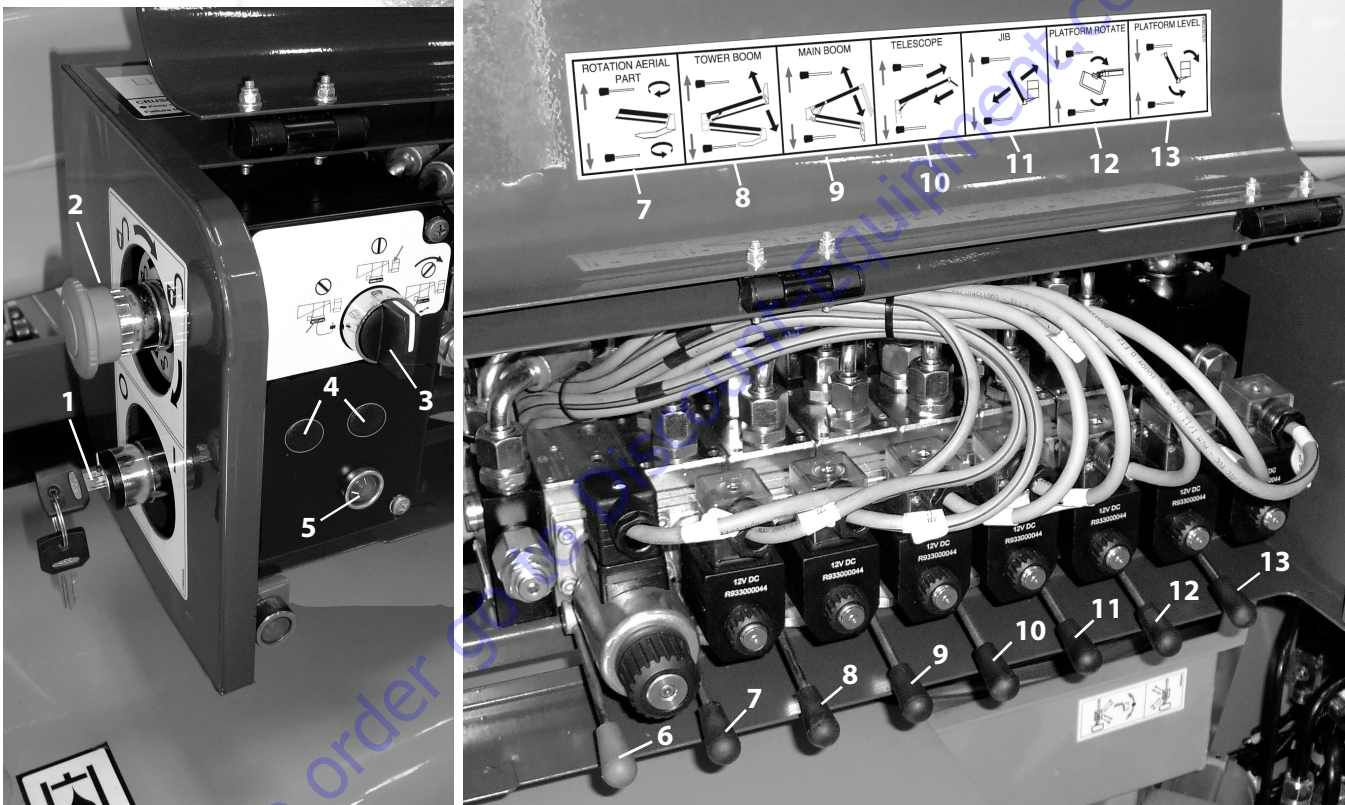
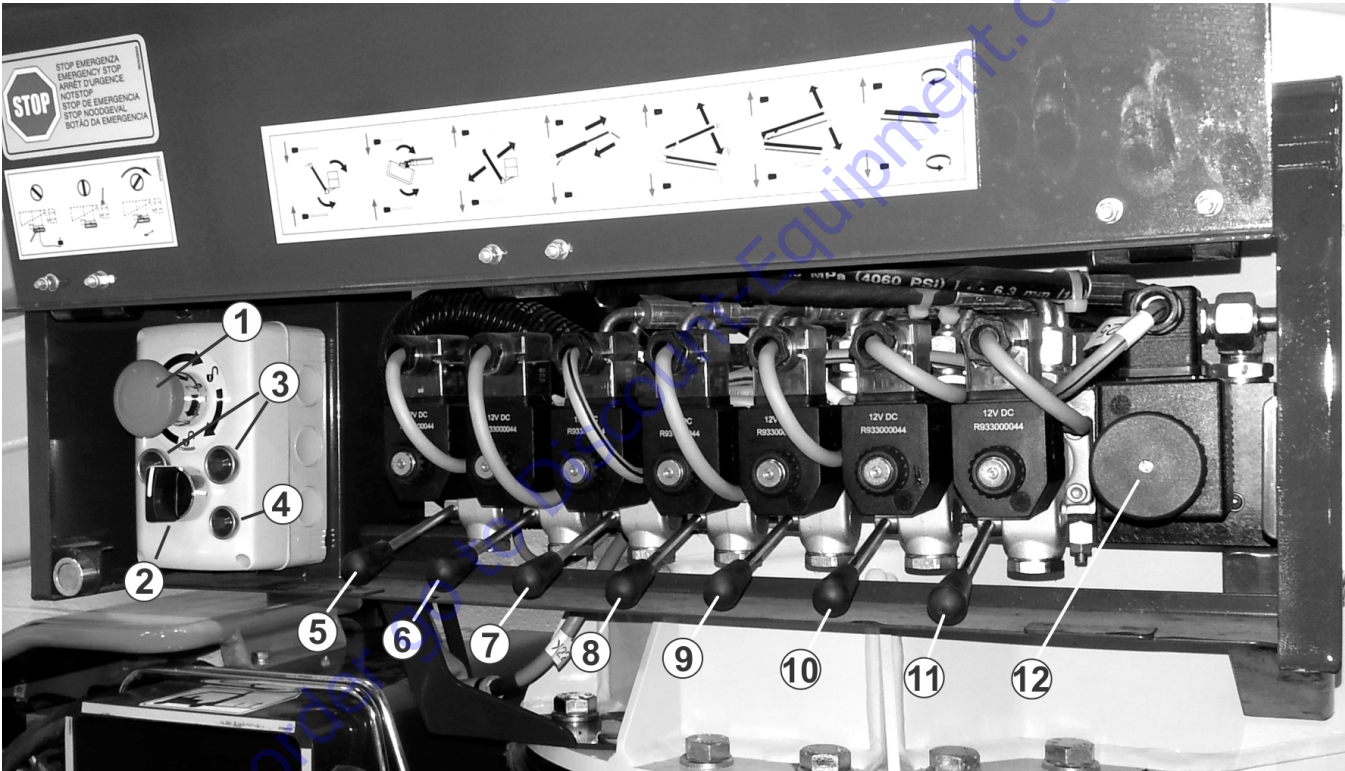

Figure 5-2. Ground Control Station - with Enable Lever
Figure 5-3. Ground Control Station - Boom Control Valves
(See Figure 5-2. or Figure 5-3.)
1. Operate the boom control valves at the ground control valve distributor. (see Figure 5-3.)
NOTE: *The distributor enable valve (item 12) adjusts the speed of the boom movements (pressure flow) when using the boom control valves at the valve distributor on the left side of the machine in Figure 5-3. Without electrical power you must manually open this valve by pressing it in before operating the boom controls.*
Open the cover on the Ground Control Station (See Figure 5-2. or Figure 5-3.) located on the hydraulic tank side of the machine.
- a. **Depress the enable valve lever/button** (See Figure 5-2. or Figure 5-3.).
- b. **Activate the swing control lever** (item 11 - Figure 5-3. on page 5-7), in the desired direction of travel while pumping the hand pump until the turntable is aligned with the chassis.
NOTE: All of the following functions require the enable lever/button (See Figure 5-2. or Figure 5-3.) to be depressed while pumping the hydraulic hand pump and operating the function lever.
With the aid of an assistant, while pumping the hand pump, activate the telescope function lever (See Figure 5-2. or Figure 5-3.) at the ground controls, to retract the main boom.
While pumping the hand pump, activate the jib lift function lever (See Figure 5-2. or Figure 5-3.) in the appropriate direction to lower the jib.
While pumping the handpump, activate the tower boom lift function lever (See Figure 5-2. or Figure 5-3.) in the appropriate direction to lower the tower boom.
With the aid of an assistant, activate the main boom lift function lever (See Figure 5-2. or Figure 5-3.) in the appropriate direction to lower the main boom.
Activate the appropriate platform rotate function lever (See Figure 5-2. or Figure 5-3.) to rotate the platform.
Activate the appropriate platform level function lever (See Figure 5-2. or Figure 5-3.) to level the platform.